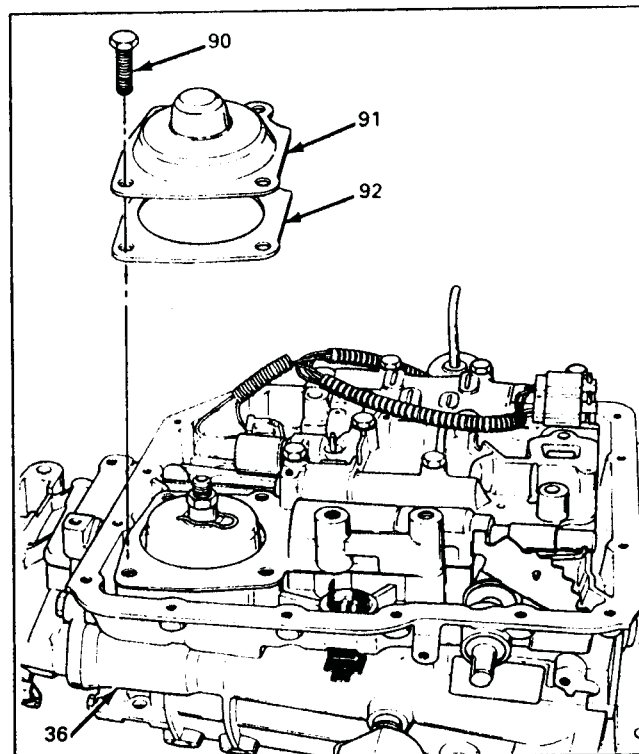

Figure 129
17. Install servo cover and gasket as shown in Figure 129, and torque the four bolt to 18 ft.lbs.